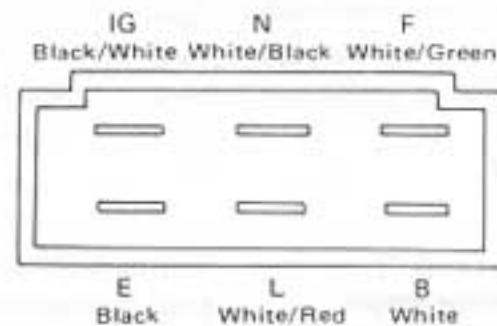

Fig. 11-20
- Open circuit in the line to "N" or "B" terminal of the regulator unit. (Refer to Fig. 11-20 )
(2) Continuity test on field coil